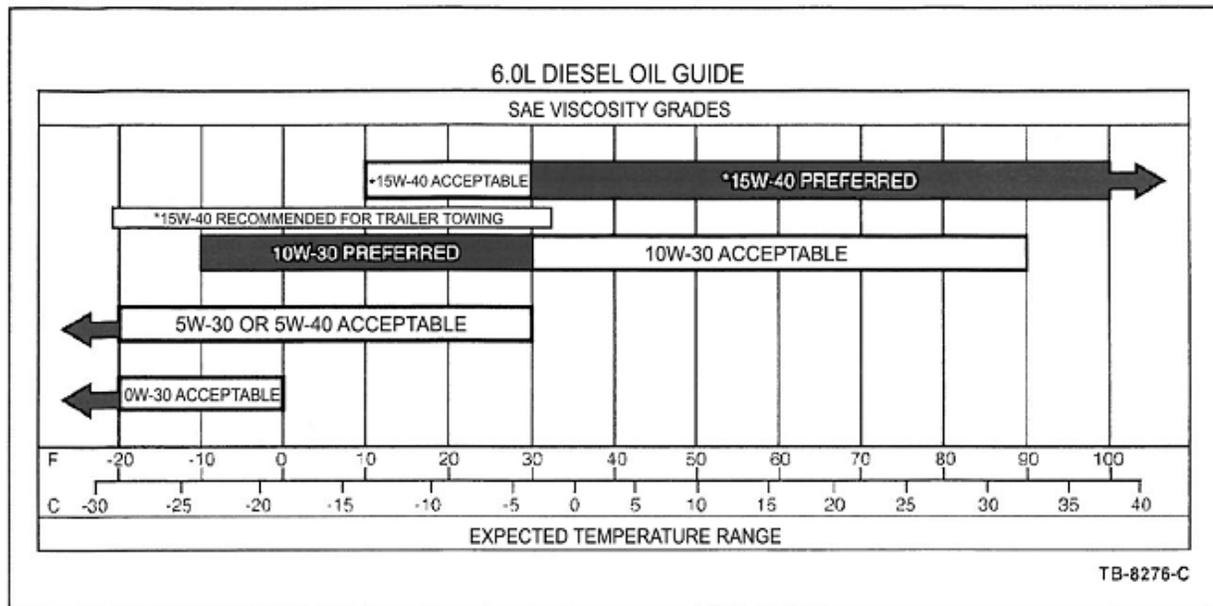

Figure 2
1. Ensure that engine oil is clean, is the correct viscosity for the temperatures it will be operating in (refer to figure 2, below), and has the recommended API service category rating (we advise using CJ-4 or CI-4 PLUS, although Ford allows CI-4).